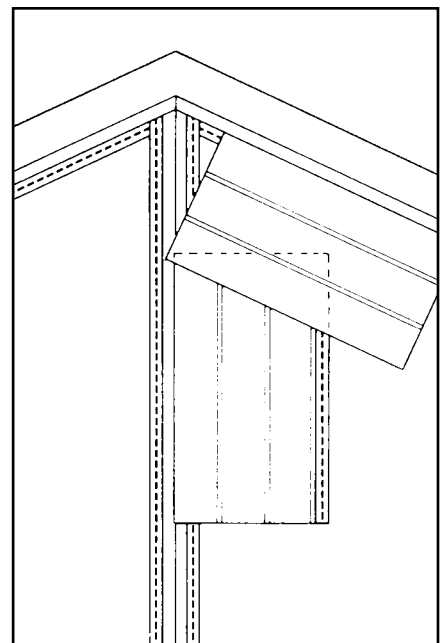

Fig 8.9
- C. Make a pattern for the angle cuts as shown in figure 8.9. Then cut the first panel 1/2" less than the full height measurement from J to J-Channel.